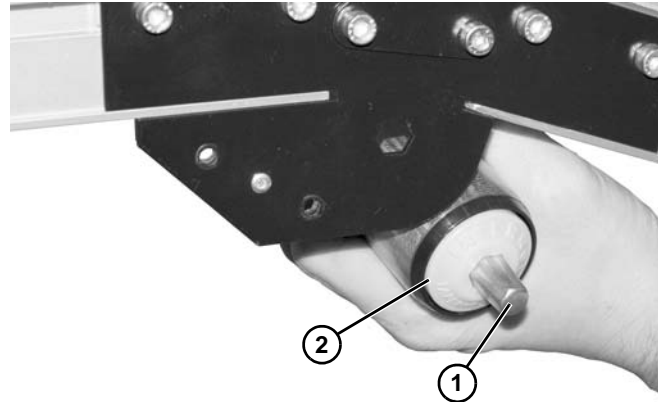

Figure 72
- b. For 5" (127 mm) or wider conveyor, push spring-loaded shaft ends (**Figure 72, item 1**) inward. Install roller (**Figure 72, item 2**).